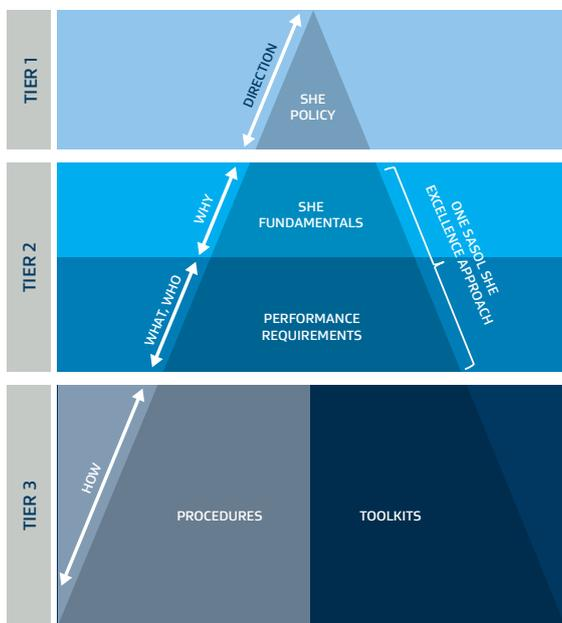

Figure 5: SHE directional governance framework
SHE direction is governed by the framework explained on p11, Figure 5 below. The SHE policy sets out the overarching SHE commitments for the Group, which includes the entire Operating Model and Value Chain. The One Sasol SHE Excellence approach (1S SHE EA) interprets the direction given in the SHE policy, through the SHE fundamentals and performance requirements (WHY, WHAT and WHO). Lastly, these fundamentals and requirements of the 1S SHE EA inform the procedures and toolkits that are aimed at supporting the execution of SHE practices and activities in OMEs (HOW).
- SHE directional governance framework (**Figure 5, p20**);